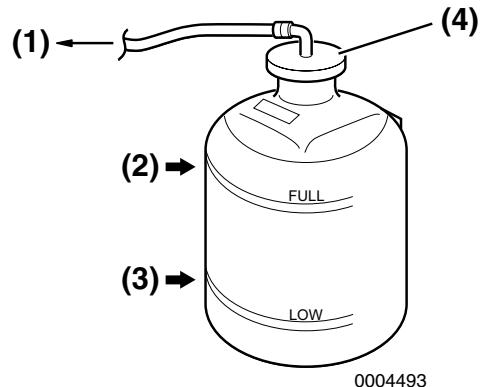

Figure 19
5. Check the coolant level in the coolant recovery tank. The level should be at the FULL mark (**Figure 19, (2)**). Add coolant if necessary. **NOTICE: NEVER pour cold coolant into a hot engine.**
6. Remove coolant recovery tank cap (**Figure 19, (4)**) to add coolant if necessary. Do not add water.
8. Check the rubber hose (**Figure 19, (1)**) connecting the coolant recovery tank to the coolant tank / heat exchanger. Replace if damaged.